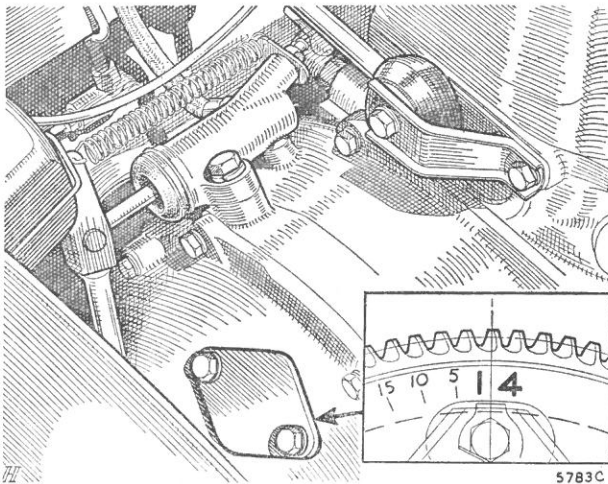

Fig. B.7
- (1) Remove the distributor and make quite certain that the distributor driving spindle has been refitted correctly as in Section A.16.
- (2) Turn the crankshaft in the direction of rotation and watch the valves of No. 4 cylinder. When the valves are 'rocking' (i.e. exhaust just closing and the inlet just opening) on No. 4 cylinder, then No. 1 piston is approximately at T.D.C. on its compression stroke. If the crankshaft is now rotated until the 1/4 mark on the flywheel is in line with the pointer in the aperture on the clutch cover (see Fig. B.7) the piston is exactly at T.D.C. Turn the crankshaft from this position until the pointer indicates the correct setting.